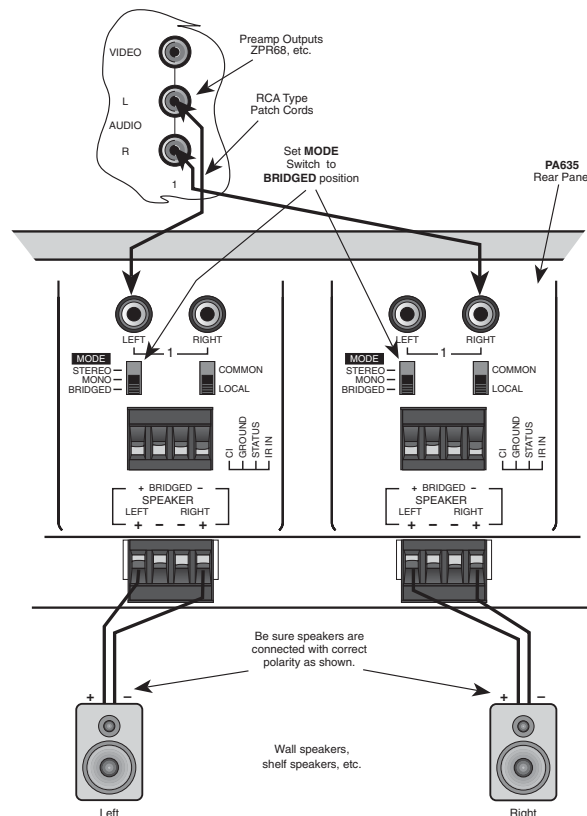

Figure 7 – Bridged Mode Connections
1. You may connect the RCA-type patch cables from the OUTPUT jacks of the driving preamp or other source to either the LEFT or the RIGHT input jacks of the bridged pair, as shown in Fig. 7. Do this for just the amplifier pairs you wish to run in the bridged mode.
3. Connect one speaker wire pair between the 4-terminal "SPEAKER" connectors on the PA635 and the speakers as shown in Fig. 7. Be sure to use only the two outer terminals marked "+" and "-" on the 4-terminal connector as shown on the panel for BRIDGED connections.